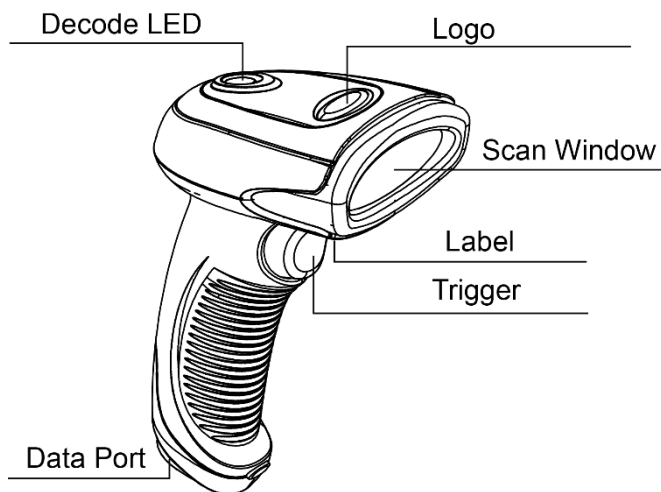

Fig. 1-1
1. Plug the RJ45 connector into the data port (see Fig.1-1) on the HR20 scanner.
1. Press and hold the trigger (see Fig.1-1). Then the scanner will project a red aiming beam.